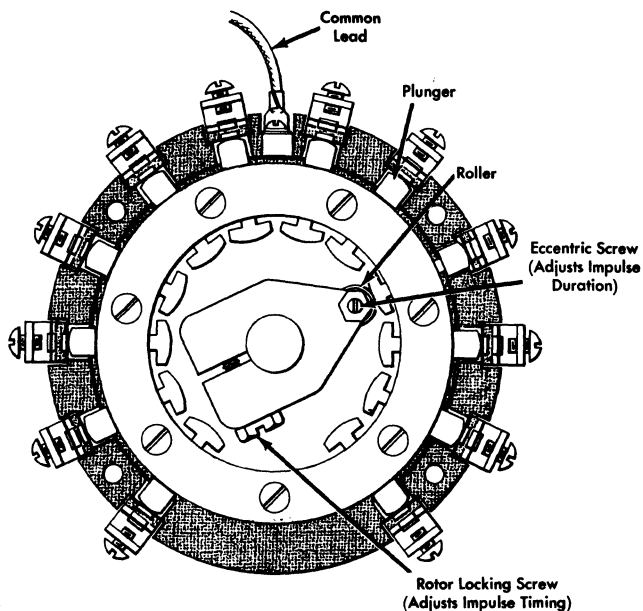

Figure 3-50. Contact Emitter
2. Set duration of each contact for 13° to 17° by adjusting the rotor roller eccentric. See Figure 3-50. Duration is most easily set by commoning all contacts, and reading continuity from common to each contact with the dynamic timer.